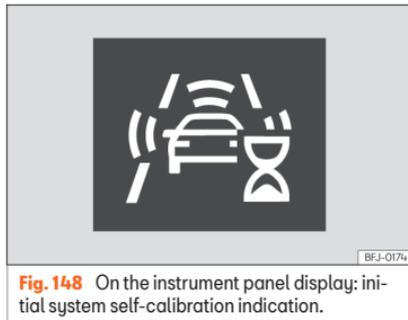

Fig. 148 On the instrument panel display: initial system self-calibration indication.
- In the first few instants of driving after switching on the ignition, due to the system's initial auto-calibration. During this period, a status icon >>> Fig. 148 is displayed.